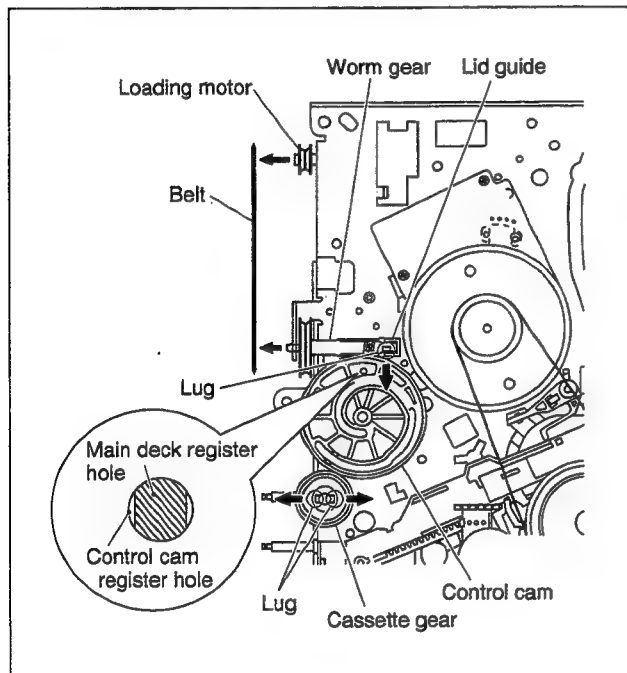

Fig. 2-2-22
- (1) Remove the control cam by lifting it.
- (2) Open the two lugs of the cassette gear outward and pull the latter off.
- (3) Remove the belt wound around the worm gear and the loading motor.
- (4) Open the lug of the lid guide outward and remove the worm gear.
- (5) When installing the control cam, make sure that the register hole at the control cam is in alignment with the register hole of the main deck. (See Fig.2-2-22)